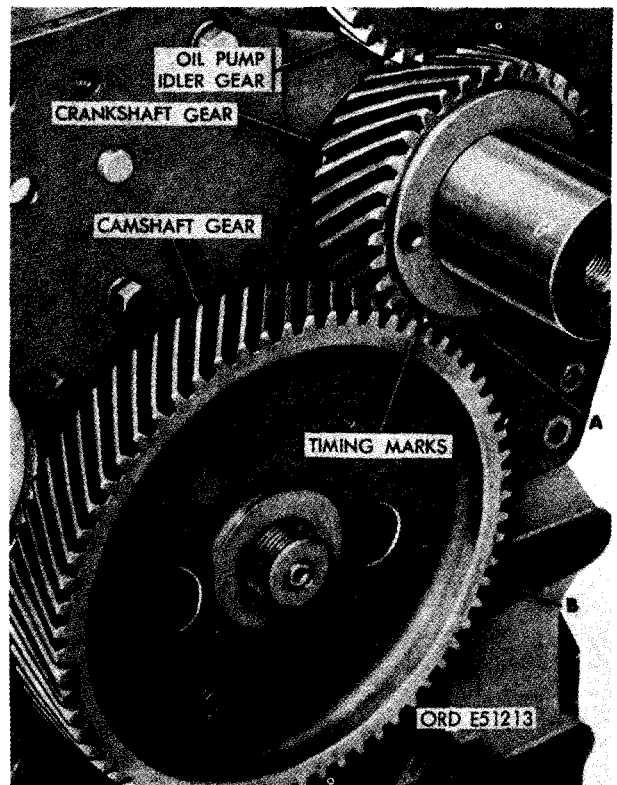

FIGURE 471. INSTALLING CRANKSHAFT GEAR AND CAMSHAFT GEAR.
- (1) Figure 471. (A) Install crankshaft gear on crankshaft. The keyway in gear must be aligned with key in crankshaft. Push gear into position, engaging gear teeth with gear teeth of oil pump idler gear. Timing dot must be toward front. (B) Align timing dots on camshaft gear with single timing dot on crankshaft gear and install camshaft gear. Align keyway in gear with key in camshaft as gear is installed.
- (4) Install camshaft gear following instructions for figures 471 and 472.